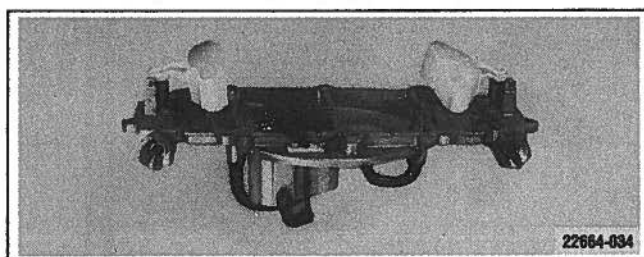

Figure 7-121. Preliminary Float Adjustment
1. Invert carburetor air horn as shown (Figure 7-121).